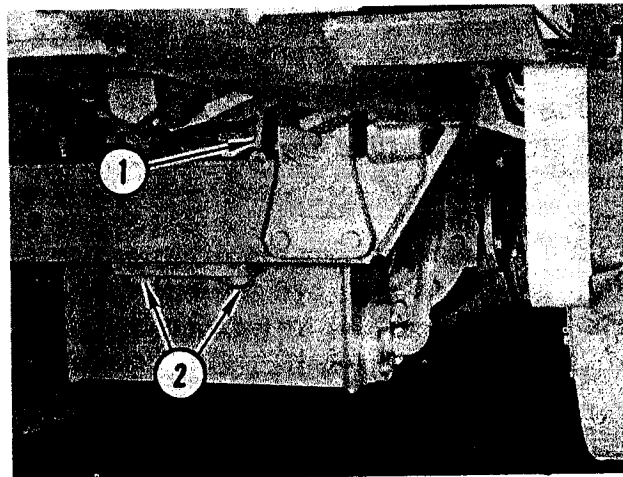

FIGURE 17. TRANSMISSION SUPPORT
Refer to Figure 17. Unhook gear brake lever return spring (1) from eye on cross member. Remove the two front transmission support bolts (2).